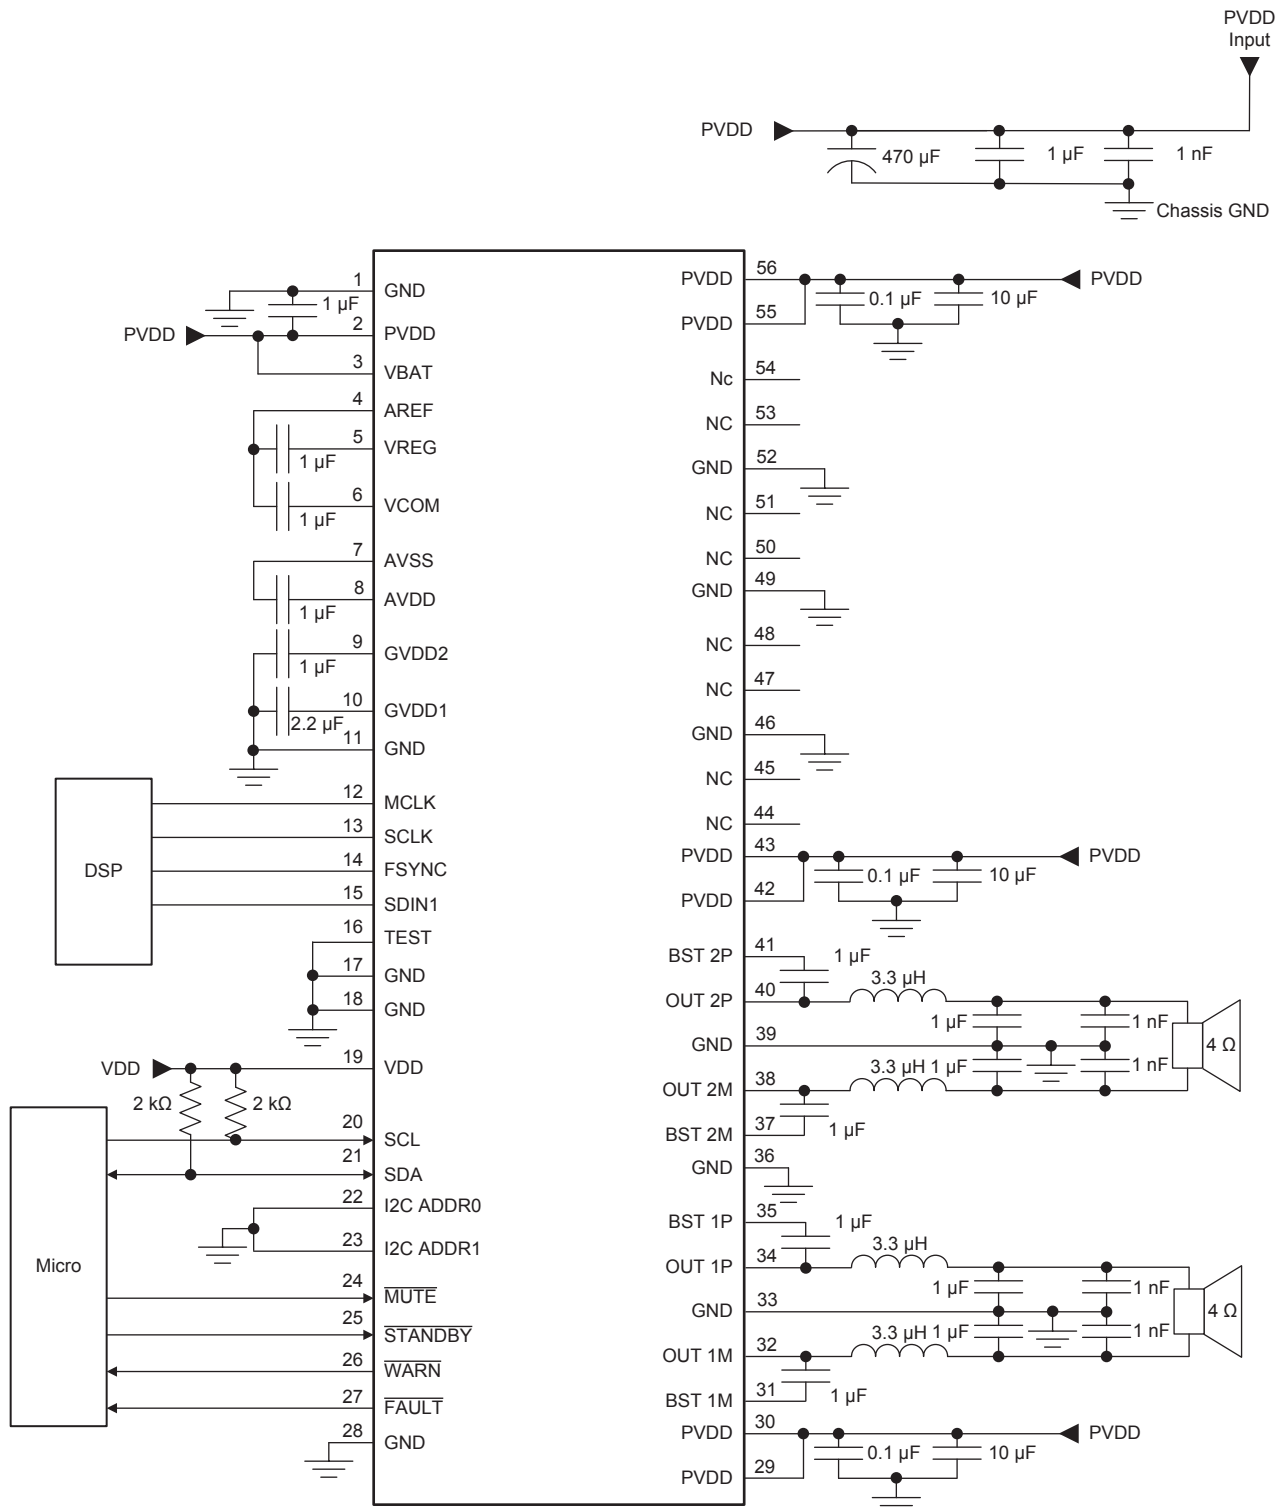

图 76. TAS6422-Q1 Typical 2-Channel BTL Application Schematic
图 76 shows the schematic of a typical 2-channel solution for a head-rest amplifier application.
- With the requirements, adjust the typical application schematic in 图 76 for the input connections.